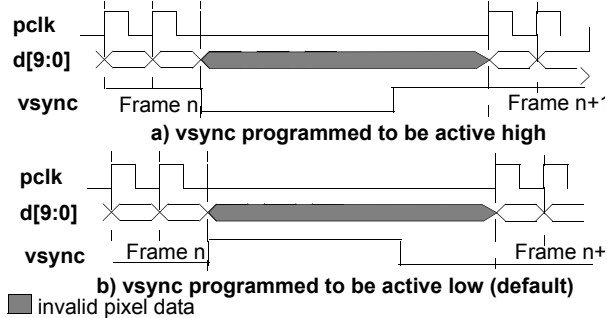

Figure 38. *vsync* in Pulse Mode
- Pulse mode should be used when the pixel clock, *pclk*, is programmed to operate in *data ready mode*. In pulse mode the *vsync* output pin will produce a pulse at the end of each frame. The width of the pulse will be a minimum of four *hclk* cycles and its polarity can be programmed as shown in Figure 38. The *vsync* level is always synchronized to the active edge of *pclk*. The *vsync* pin is put into pulse mode by setting the *VsyncMode* bit of the *DVBUSCONFIG1* register to a logic 1. The active level of the *vsync* pulse is programmed using the *VsyncPol* bit of the *DVBUSCONFIG1* register.